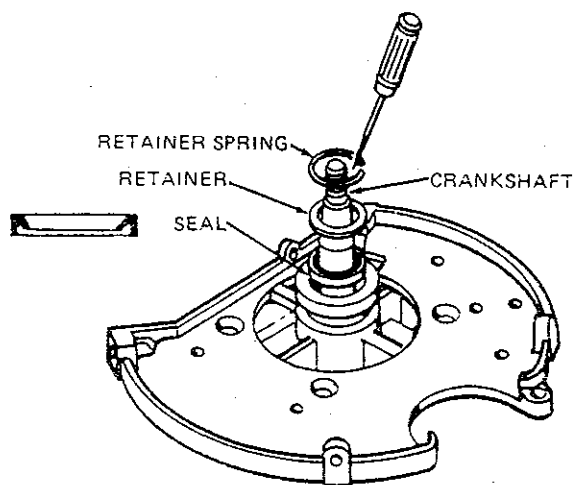
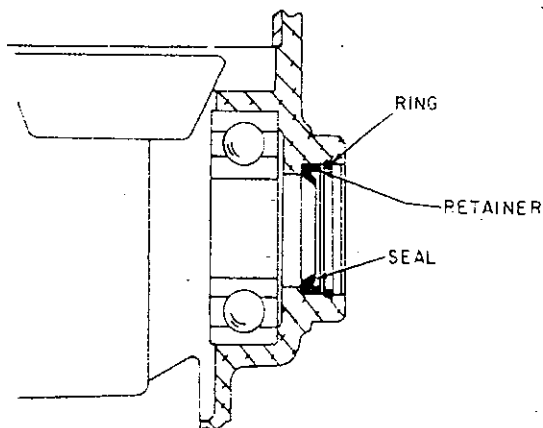

Figure 11
Figure 12
- (1) Discard all seals removed from crankcase, since new seals should be installed each time crankshaft is removed. Check condition of seal retainers and retainer springs.
- (2) Use an awl or similar sharp pointed tool to remove seals. Insert tool between retainer spring and groove so that point of tool is near gap in spring. Carefully pry retainer spring out of spring groove, then remove retainer and seal. (See Figures 11 and 12.)
- (3) Install magneto end seal with open side of seal down toward inside of engine. (See Figure 11.) Install the P.T.O. end seal with open side of seal down toward outside (lower unit) as shown in Figure 12.